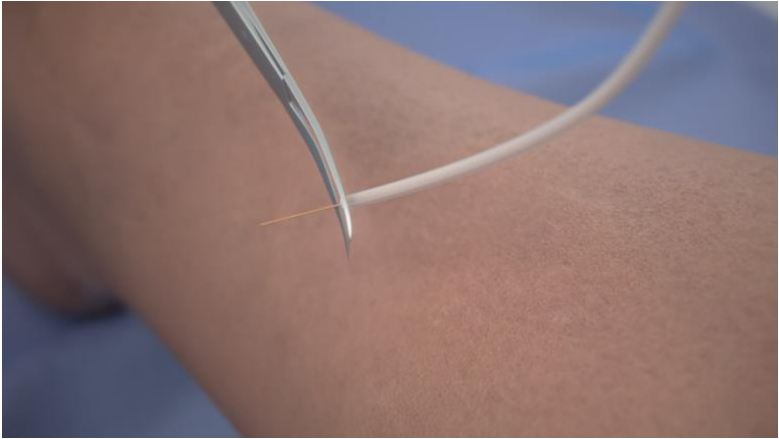

**Figure 4**
2. Position the blue antenna with the black side down, lengthwise, between the two silver marker bands along the neurostimulator. (Figure 4).